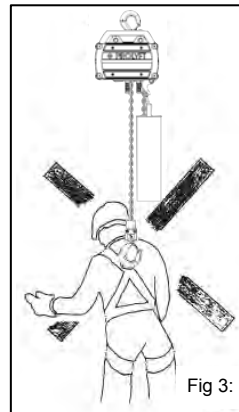

Fig 3:
- **Do not** use the hoist without additional measures for the transportation of people, see chapter XX(Fig. 3).